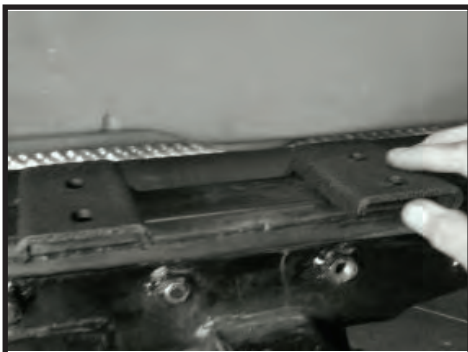

Figure 2a
2. Center mounting brackets on cross member (Fig.2a). Open rear tailgate and place center step onto mounting brackets (Fig.2b). Make sure step is centered between bumper pods (Fig.2c).